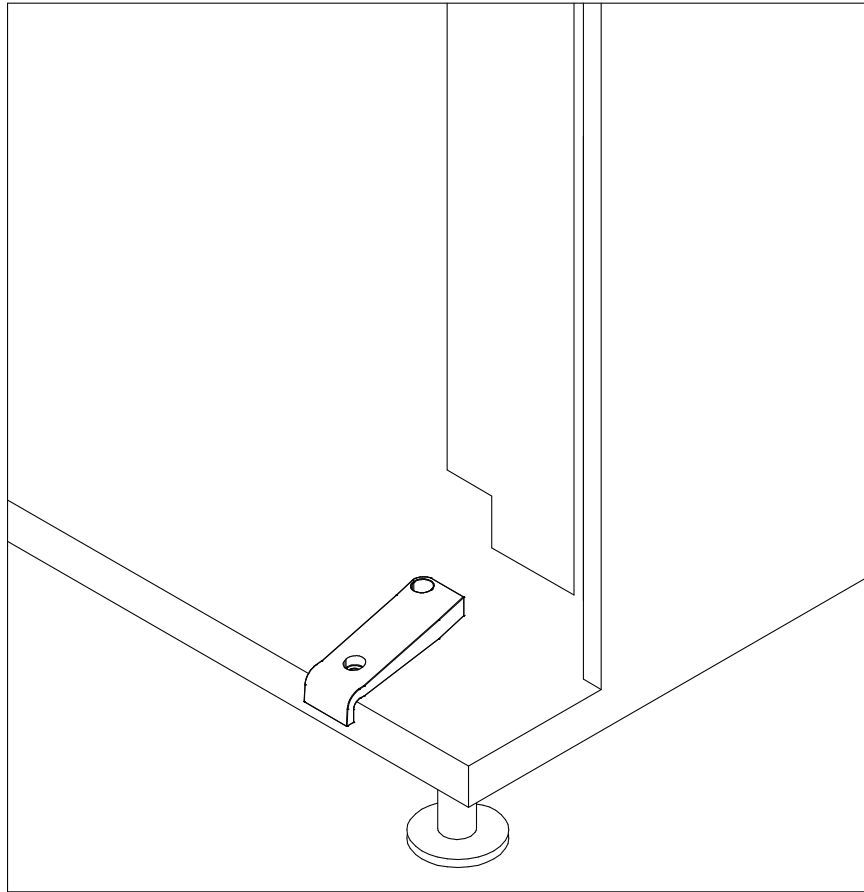

FIGURE 2
**G. Door Support (Figure 2)**